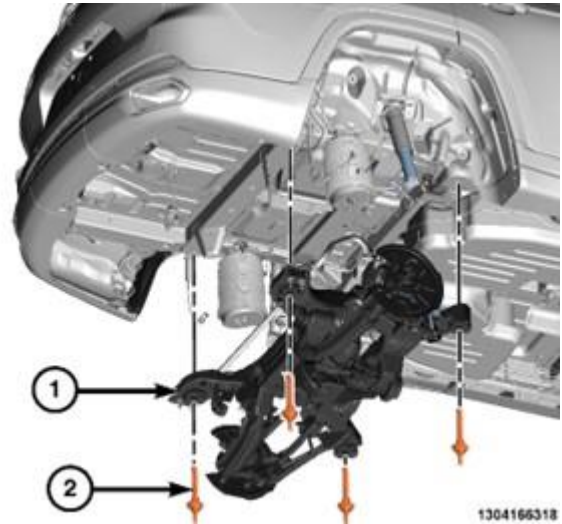

Figure 13 – Rear Suspension Crossmember
15. Support the crossmember at the center with a suitable lifting device and remove the front and rear bolts from one side. (Figure 13).
20. Raise the rear suspension crossmember, aligning the reference marks made previously. Install the **NEW** front and rear bolts, and tighten to 180 N·m (133 ft. lbs.) (Figure 13).